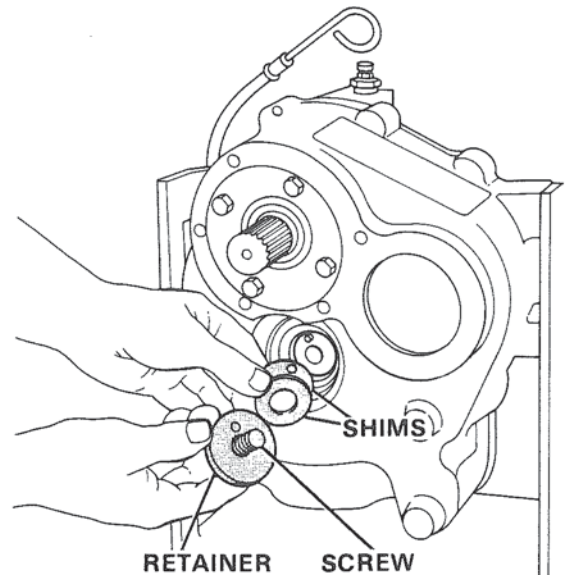

Figure 13. Removing Retainer, Screw and Shims.
1. Remove the bearing retainer washer, screw washer, and shims (3) from the bearing bore. Figure 13.